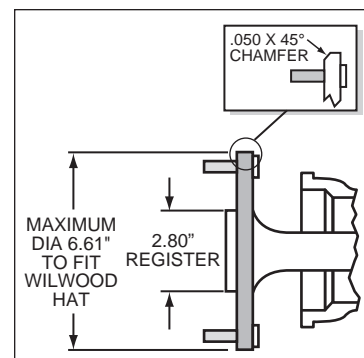

Figure 3. Axle Flange Maximum Dimension
- Axle center register diameter is 2.76", Figure 3
- Maximum axle flange diameter must be no larger than 6.61" w/.050" x 45° chamfer, Figure 3.